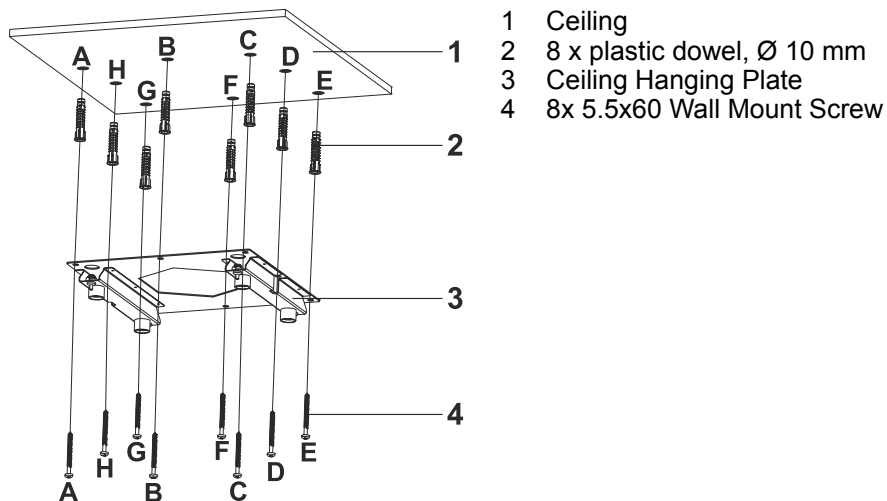

Fig. 11
1. ➤ Drill the surface where product will be installed from the points A, B, C, D with Ø10 mm drill (Fig. 11).
2. ➤ Insert Ø10 mm plastic dowels into the drilled points A,B,C,D,E,F,G,H(Fig. 11).
3. ➤ Install the Ceiling Connection plate to the ceiling at points A,B,C,D,E,F,G,H with 5.5x60 screws (4) (Fig. 11).